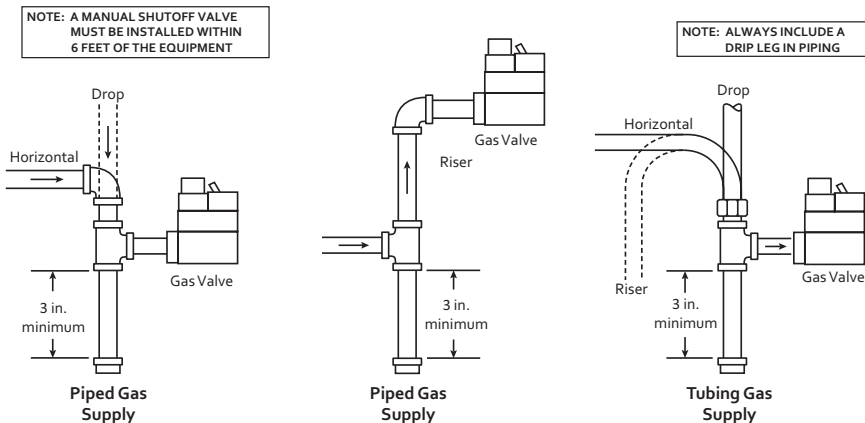

Figure 3. Typical Gas Valve Piping
7. Apply pipe joint compound (pipe dope) **that is approved for all gases, only to the male threads of the pipe joints. DO NOT** apply compound to the first two threads (see figure 3 for typical piping connections).